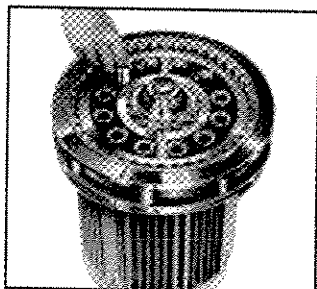

Fig. 22
4. Insert the eccentric bearing by rapping with a wooden or hard rubber mallet (Fig. 22).